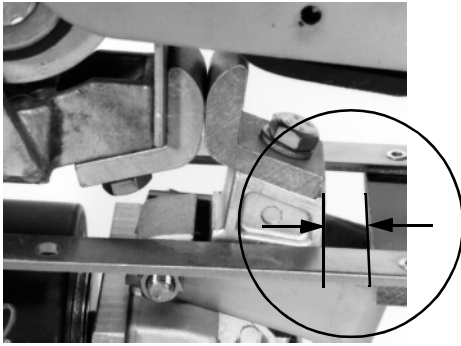

Figure 4: Contact Tip Gap
The mechanical interlock is a tie bar which, when attached to two adjacent contactors, ensures that only one of the two contactors can close at any one time. Refer to Figure 4 when adjusting the mechanical interlocks.
2. Visually verify that the mechanical interlock allows the contact arm (22) of either contactor to reach its limit of travel (either completely closed or completely open) without binding.
3. Hold the contact arm of the left contactor fully closed and push the contact arm of the right contactor closed until it is stopped by the mechanical interlock. With new contact tips, verify that there is a gap of at least $\frac{1}{32}$ in. (0.8 mm) but not more than $\frac{1}{16}$ in. (1.6 mm) between the inside edge of the stop bracket (44) and the back surface of the auxiliary arm (13), as shown in Figure 4. If the gap is not within the limits, adjust the mechanical interlock as follows: